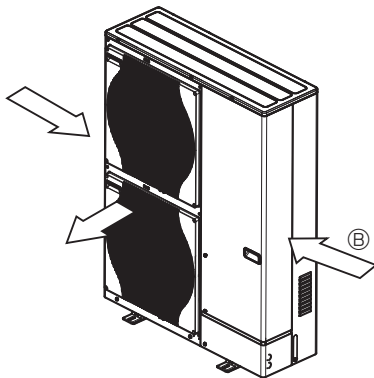

Fig. 1-5
- ③ Position the unit so that the air outlet blows perpendicularly to the seasonal wind direction, if possible. (Fig. 1-5)